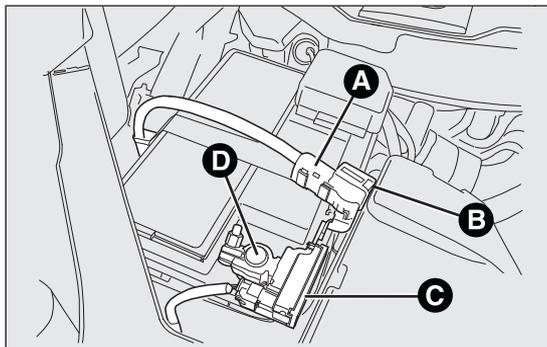

fig. 131
- disconnect the connector A fig. 131 (pressing the button B) from the sensor C monitoring the battery charge status, on the negative pole D of the battery;
- after having disconnected the battery charger, reconnect connector A to the sensor C as shown in fig. 131.